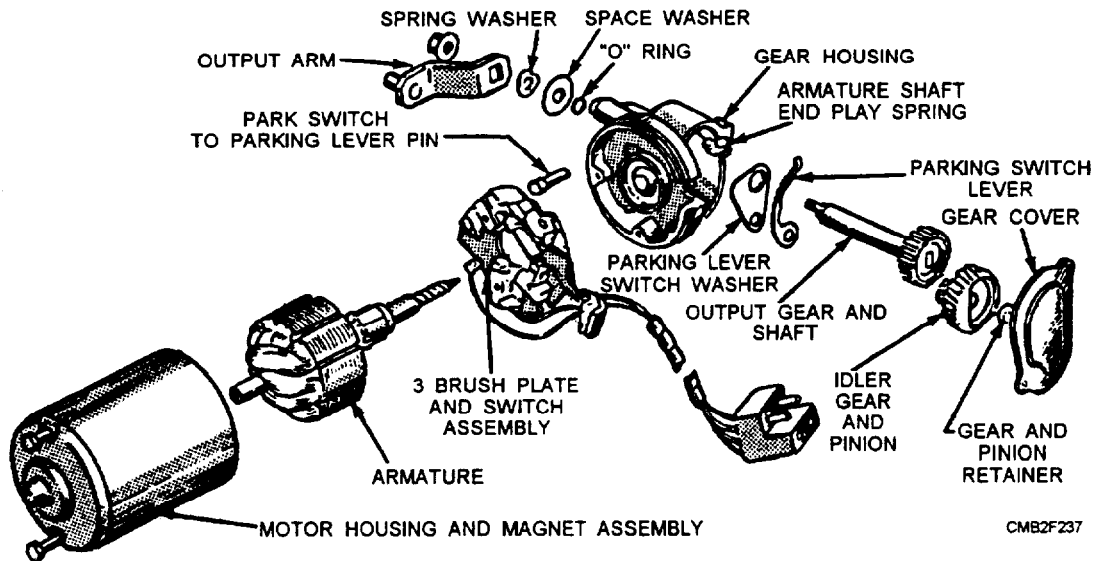

Figure 2-85.—Wiper motor assembly.
- The WIPER MOTOR ASSEMBLY operates on one, two, or three speeds. The motor (fig. 2-85) has a worm gear on the armature shaft that drives one or two gears, and, in turn, operates the linkage to the wiper arms. The motor is a small, shunt wound dc motor. Resistors are placed in the control circuit from the switch to reduce the current and provide different operating speeds.